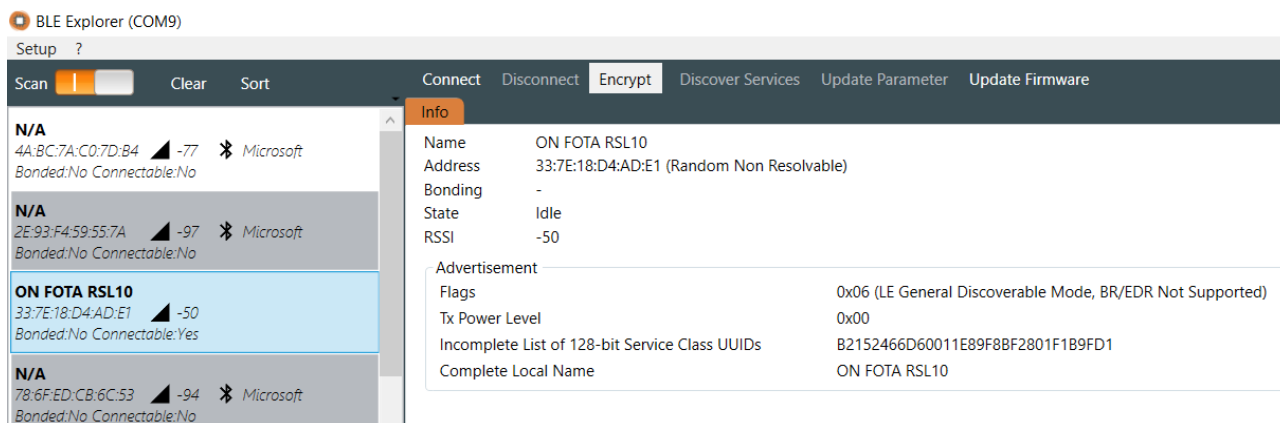

Figure 18. FOTA DFU Mode Running
5. Push the DIO5 button on your RSL10 EVB so that the device starts the FOTA DFU mode. You can see the name **ON FOTA RSL10** on the RSL10 Bluetooth Low Energy Explorer, as in the figure "FOTA DFU Mode Running" (Figure 18):